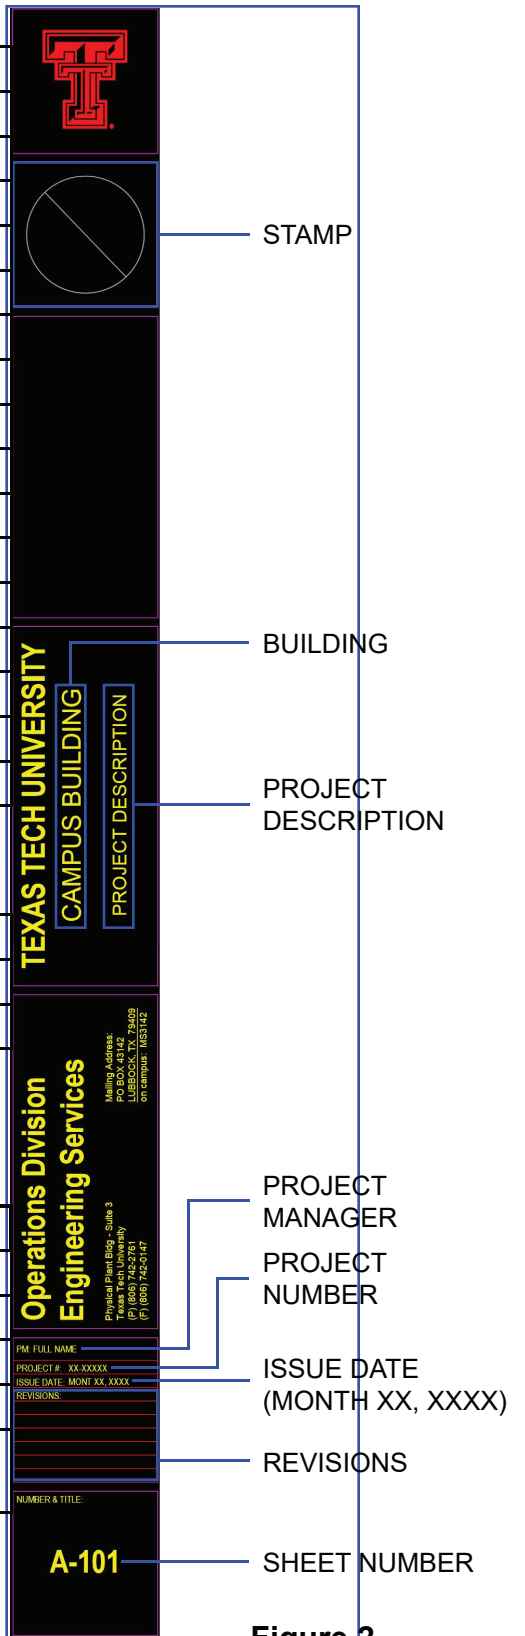

Figure 2
- 3.1. TTU-OD will issue a standard border/title block that shall be used for all "Texas Tech University - Operation Division Drawings" and which will be inserted in the Master AutoCAD File as a block. ***The boarder/title block and it's text shall not be altered, except to add required information where fields are supplied (i.e. date, project number, etc.). If altered in any way the submission shall be rejected.*** See Figure 2 for description of required/appropriate information fields for TTU-OD title block.